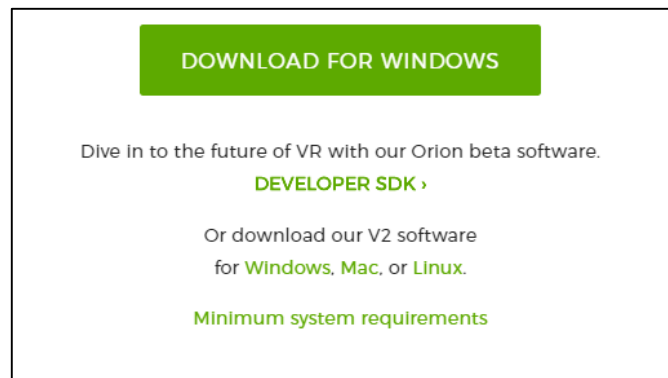

Figure 5.93 Download the Leap Motion driver software for Windows
- The Leap Motion driver software has been obtained. Download the Windows version, as shown in Figure 5.93, from the <https://www.leapmotion.com/setup/desktop/windows>.